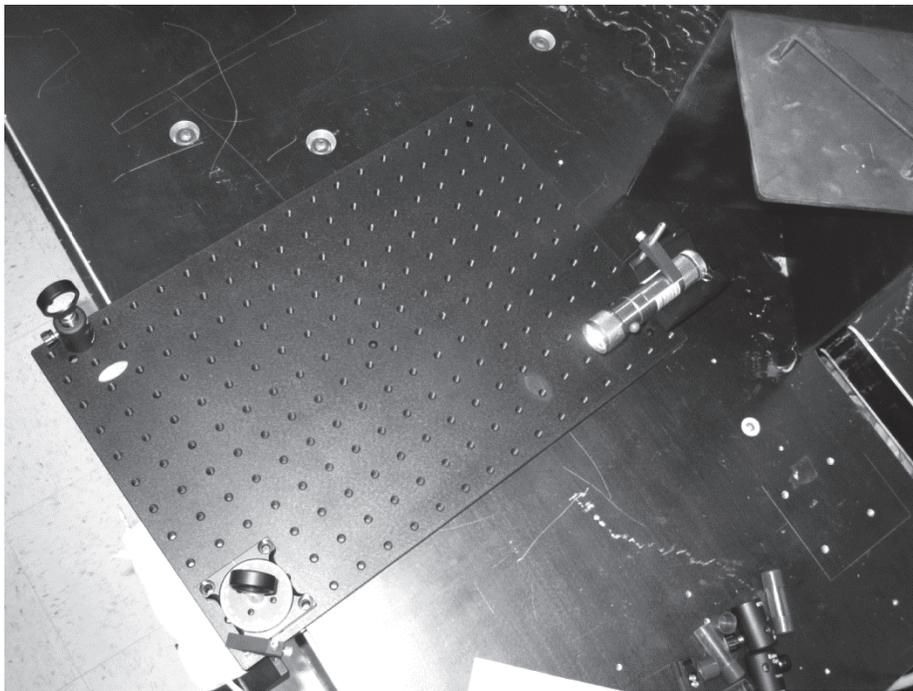

Figure 35 – Retroreflection Alignment Set-up
6. Mount the other round mirror to the other kinematic mirror mount. Mount the kinematic mirror mount, with mirror mounted, to a 1.5" post. Mount a post holder in a position on the optical breadboard that is on the opposite side of the rotational stage assembly and makes a 90° angle with the laser beam. Refer to Figure 35. Insert the second mirror assembly post into this post holder. We will call this assembly two.